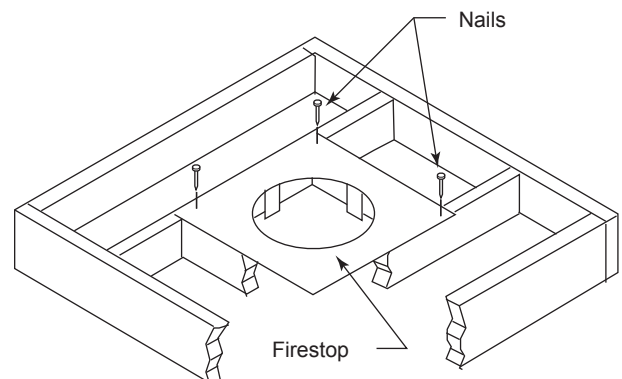
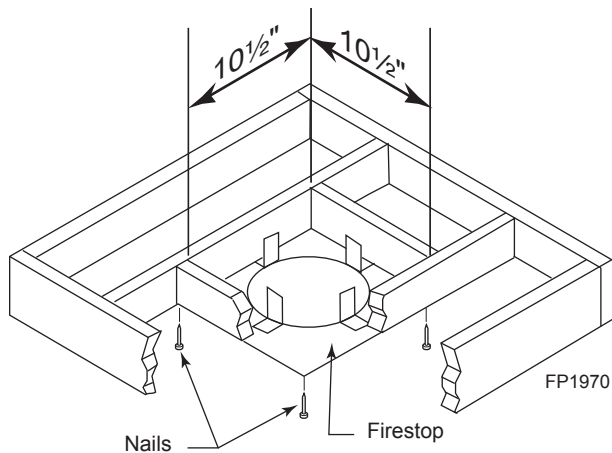

**Figure 24 - If Area Above is a Room, Install Firestop
Figure 25 - If Area Above is Not a Room, Install Firestop above Framed Hole as Shown
1. Cut a 10½" (241 mm) square hole in the ceiling using the locating hole as a center point. The opening should be framed to 10½"x10½" (241 x 241 mm) inside dimensions as shown in Figure 25 using framing lumber the same size as the ceiling joist. If the area above the ceiling is an insulated ceiling or a room, nail firestop from the top side. This prevents loose insulation from falling into the required clearance space. Figure 24. Otherwise, install firestop below the framed hole. Figure 25